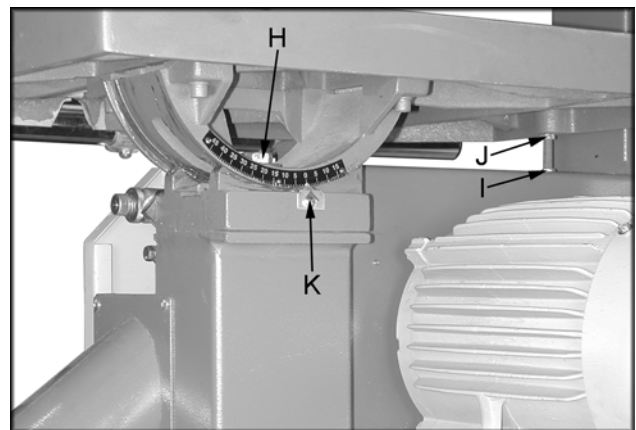

Figure 9
4. If adjustment is necessary loosen trunnion bolt (H, Figure 9) and tilt table until it is square to the blade. Tighten trunnion bolt.
5. Loosen nut (I, Figure 9) and turn table stop bolt (J, Figure 9) until it contacts the table. Tighten the nut while holding the table stop bolt in place.
7. If necessary loosen screw (K, Figure 9) and adjust pointer to read zero.